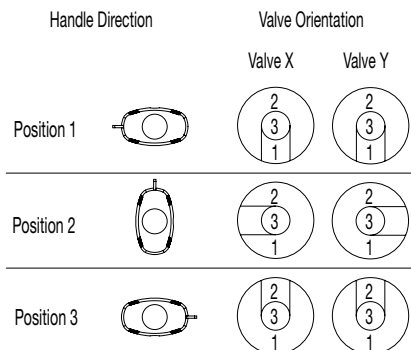

Fig. 7 2-Valve GSM Assembly Schematic
2. Turn the handle to position 2. (Refer to Fig. 7, 2-valve assembly schematic.) Note orientation of gears as they will need to be reassembled in the same orientation.
2. Turn the handle to position 1. (Refer to Fig. 7, 2-valve assembly schematic.) Note orientation of the gears and handle as they will need to be reassembled in the same orientation.